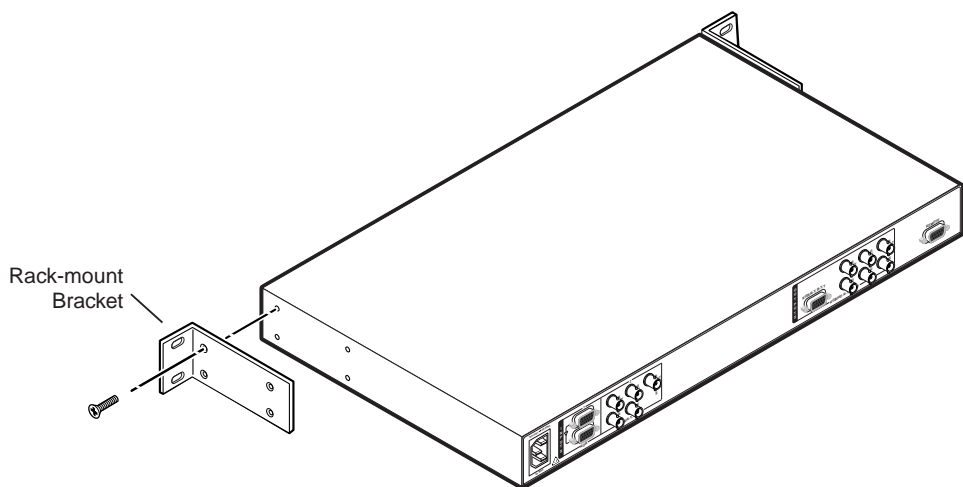

Figure 2-1 — Mounting the digital display scaler
1. Attach the rack mount brackets to the scaler with eight #8 machine screws, provided (figure 2-1).